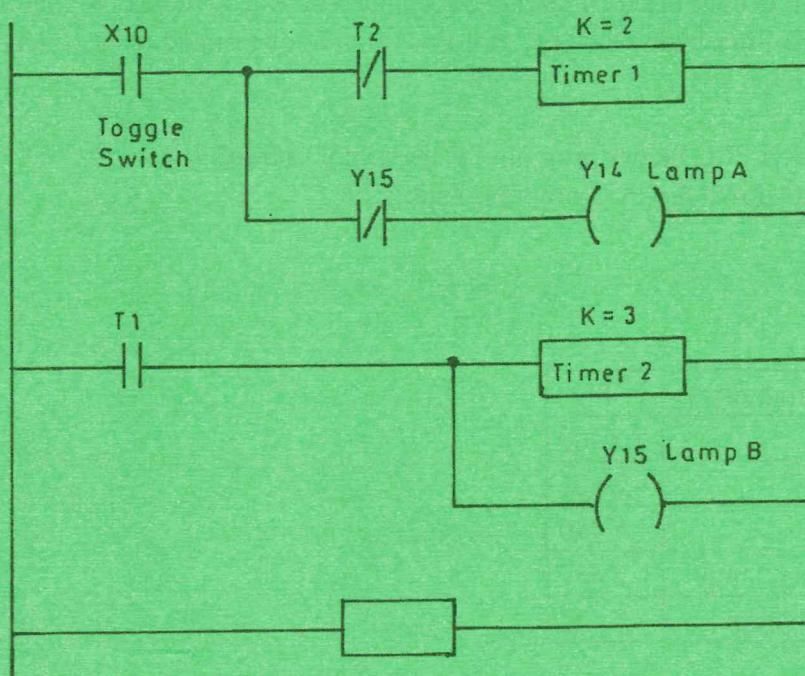

Fig. 3
- (d) Figure 3 shows a ladder diagram program of a programmable logic controller (PLC).